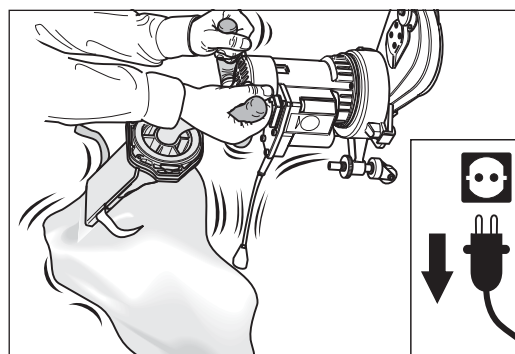

Fig. 22 Shake the dust residue from the machine into the dust bag.
- 4 Shake the dust residue from the machine into the dust bag (fig. 22).